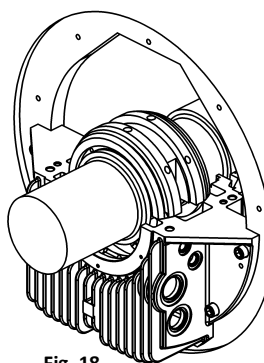

Fig. 18
- Place the lower part of the bearing shell (7) on the shaft seat (Fig. 18) and turn it to the correct position (Fig. 19) in the lower part of the housing (1), taking care to ensure that the thrust bearing surfaces are not damaged when the shell is turned.